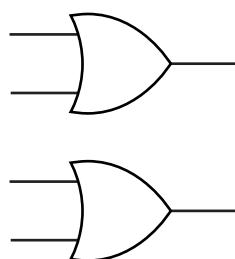

**Fig. 15**
- (iii) Fig. 15 shows a resistor that has slipped out of position while being soldered into a PCB.